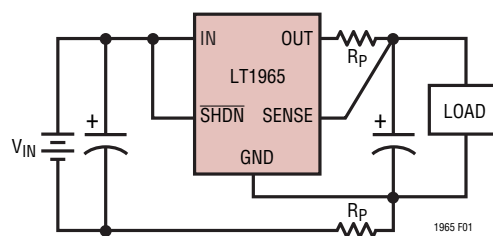

Figure 1. Kelvin Sense Connection
**SENSE (Pin 3 / 3 / 5 / 5):** Sense. For fixed voltage versions of the LT1965 (LT1965-1.5/LT1965-1.8/ LT1965-2.5/ LT1965-3.3), the SENSE pin is the input to the error amplifier. Optimum regulation is obtained when the SENSE pin is connected to the OUT pin of the regulator. In critical applications, small voltage drops are caused by the resistance ( $R_P$ ) of PCB traces between the regulator and the load. These drops may be eliminated by connecting the SENSE pin to the output at the load as shown in Figure 1 (Kelvin Sense Connection). Note that the voltage drop across the external PCB traces will add to the dropout voltage of the regulator. The SENSE pin bias current is 100 $\mu$ A at the nominal rated output voltage.